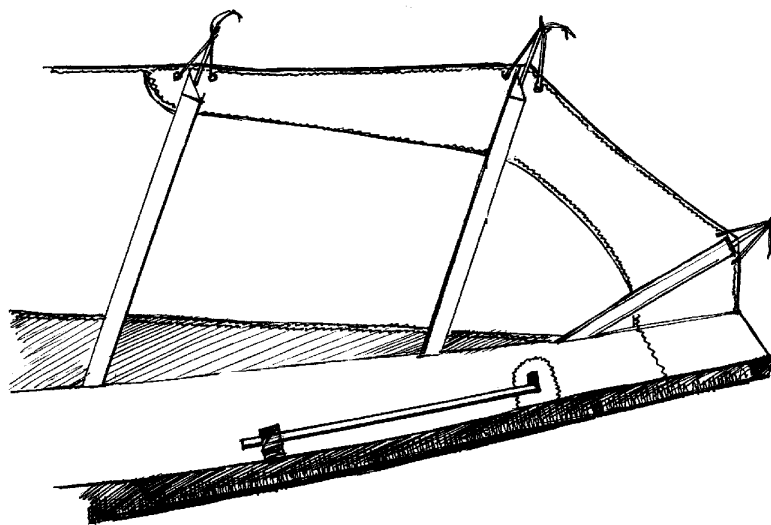

Fig.42
4.1.2. Remove the washout tips and attach them by velcro (Fig.42).